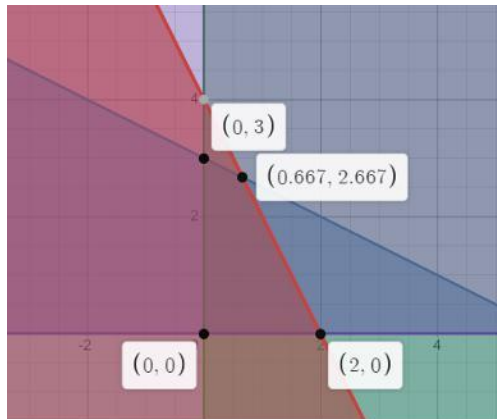

Figure 3: Feasible region: Problem 5a.
- a. A graph of these constraints looks like Figure 3. The feasible region is the polygon with vertices $(0,0)$, $(0,3)$, $(\frac{2}{3}, \frac{8}{3})$, and $(2,0)$. Any of the points in the region or on its boundary satisfy all four constraints.